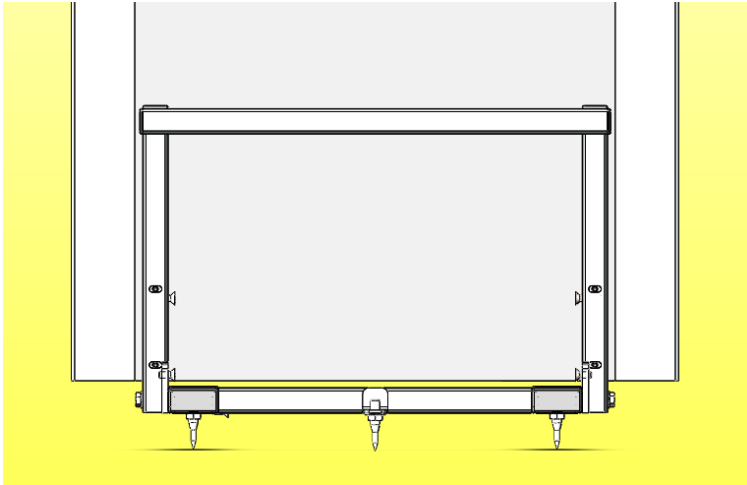

Figure 5
3. Fasten the stand to the speaker at the points, shown in *figure 5*, using the screws that Magnapan supplied with your speakers. Tighten snugly but do not over tighten as over tightening may damage the threaded inserts or screws.